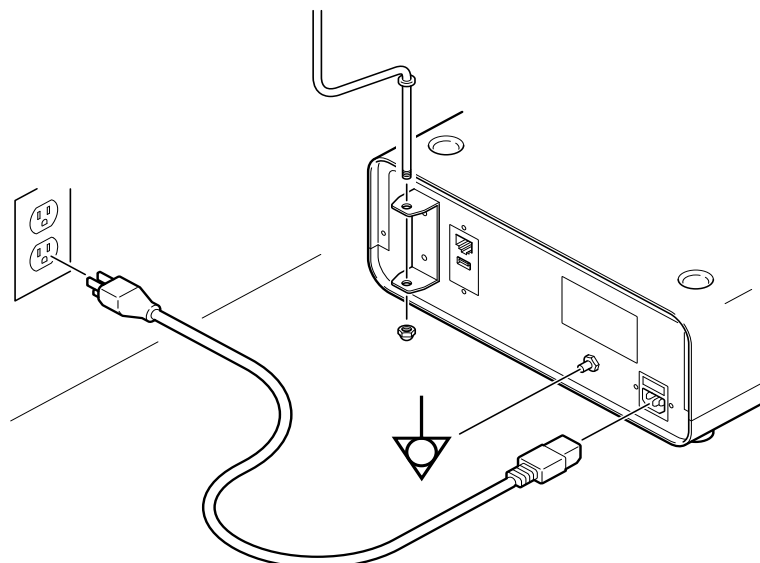

Figure 5 – Console (Rear View)
3. Verify the following items are connected; connect as necessary (*Figure 5*):
- 7.1. If required, install an irrigation pole (*Figure 5*).